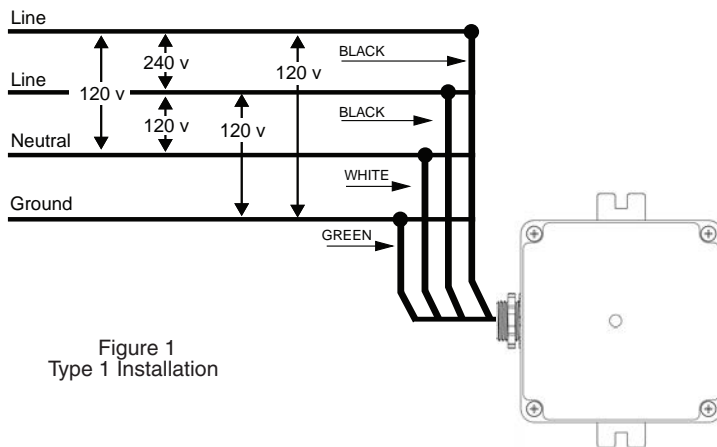

Figure 1
2. Connect wires as shown in figure 1.